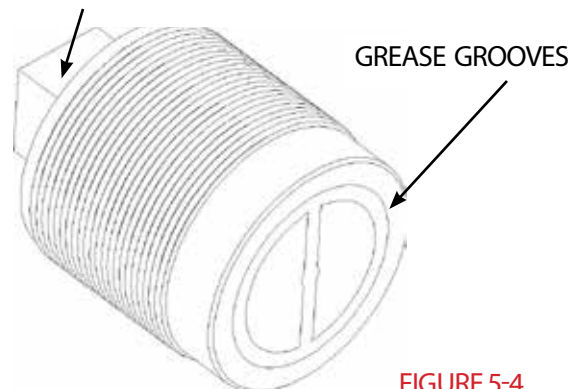

FIGURE 5-4
2. Look at the face of the slide screw to determine if there are still grease grooves (see Figure 5-4). If the grease grooves are worn away, it will be necessary to replace the slide screw. If the slide screw needs to be replaced, continue on with step 3.